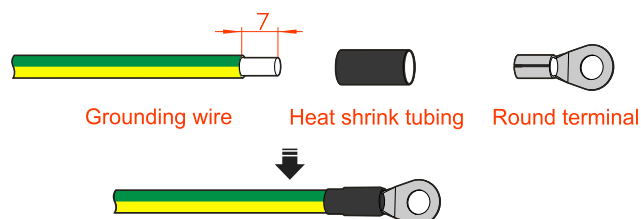

Figure3-14 Stripping diagram of external grounding wire (unit: mm)
- Step 1 Strip the insulation layer of grounding wire for about 7mm, insert the wire into round terminal and crimp them by crimping tool, as shown in Figure3-14.